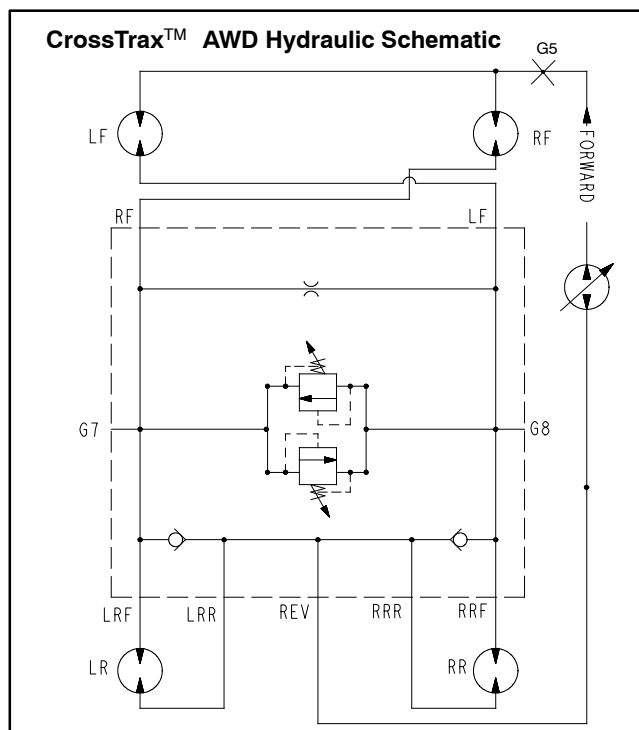

Figure 12
On machines equipped with the optional CrossTrax™ AWD kit, four (4) wheel motors are used (Fig. 12). Piston (traction) pump flow is directed to the front tires and the opposite rear tires to maximize traction. To reduce tire scuffing when turning, traction system pressure is equalized in the AWD manifold with an orifice and a bi-directional relief valve. Check valves in the AWD manifold allow the rear wheel motors to over run during tight turns.